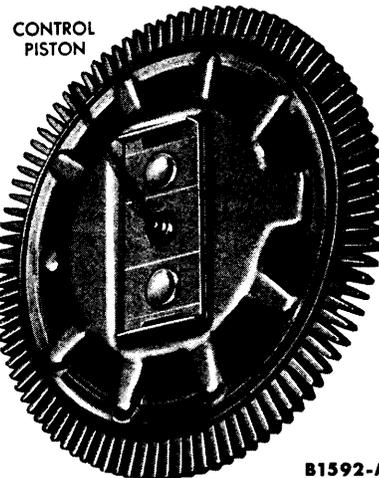

FIG. 7—Control Piston Installed
1. Install the control piston (Fig. 7) so that the projection on the end of the piston will contact the bi-metallic strip.